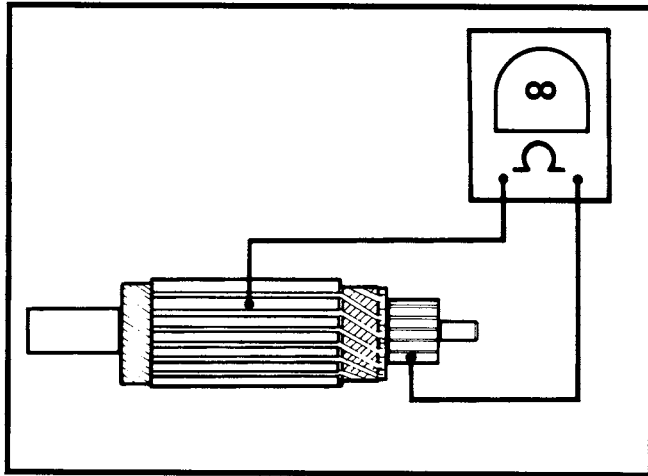

Figure 76. Grounded Armature Test
11. See Figure 76. Check for a GROUND^{ED} ARMATURE with an ohmmeter or continuity tester. Touch one probe to any commutator segment, and the other probe to the armature core. There should be no continuity (infinite ohms). If there is any continuity the armature is grounded and should be replaced.